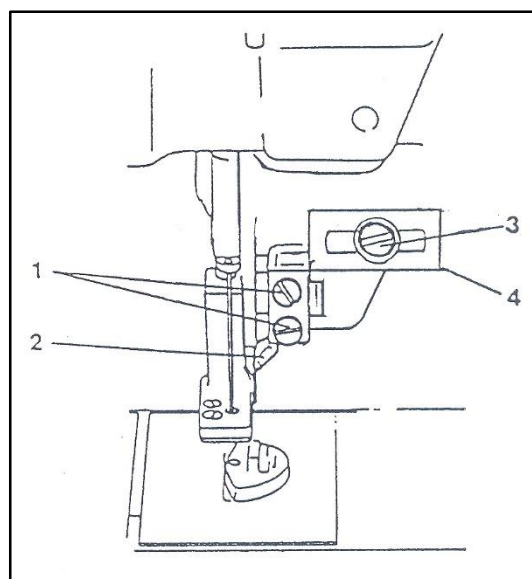

Figure 7.22
When the knife is engaged it should cut cloth cleanly without having excessive pressure on the throat plate. Referring to Fig. 7.22 loosen screws (1) and remove knife (2). Insert new knife and, with the knife in its lowest position, adjust knife holder (4) by releasing screw (3) and pushing knife up to throat plate. Tighten all screws.